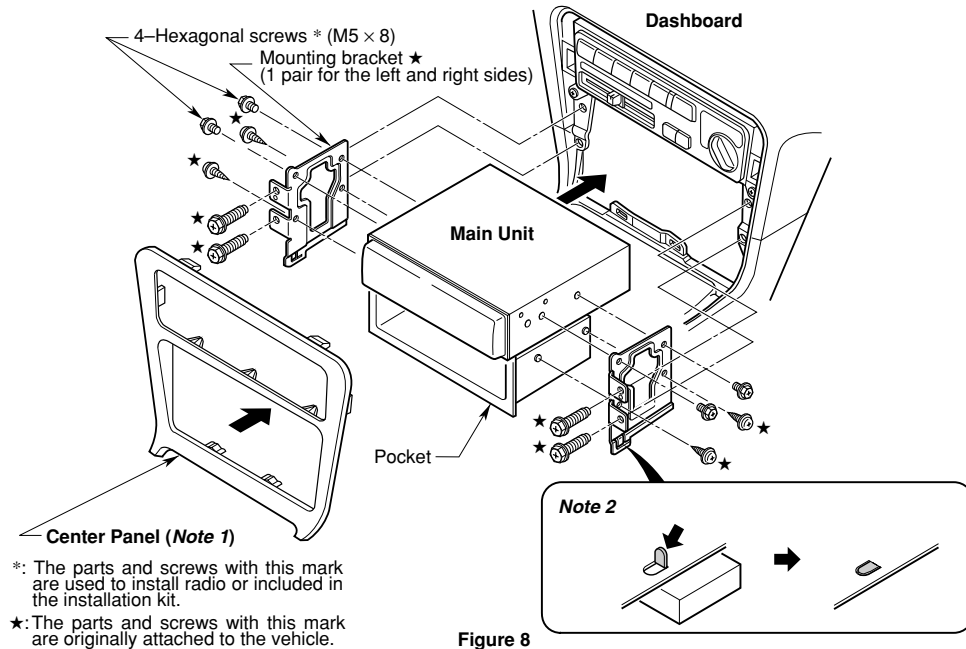

Figure 8
If the vehicle is equipped with a factory-installed radio, install the main unit with the parts and screws marked (\*) (Figure 8).
2. Secure the mounting brackets to the chassis as shown in Figure 8. Holes are pre-tapped for TOYOTA and NISSAN vehicles; modification, such as drilling new holes, of the mounting brackets may be required for other models.